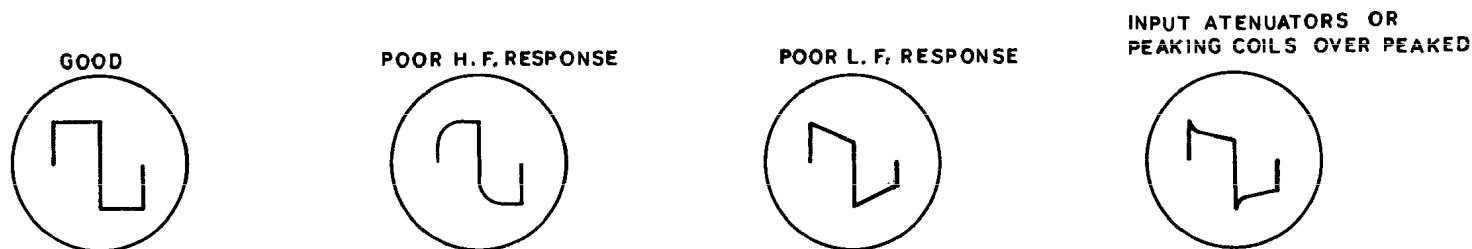

Figure 11
**CHECKING THE SQUARE WAVE:** Only the very expensive, laboratory type, oscilloscopes have sufficient vertical amplifier response to reproduce very low or very high frequency square waves without distortion. In an average, lower priced, oscilloscope, the low frequencies will tilt the top and bottom of the square wave so that they appear to be pointing downhill from the top, and uphill from the bottom, of the wave form. At the higher frequencies, the leading edge of the waveform will start to become rounded. See Figure 11, Page 32.